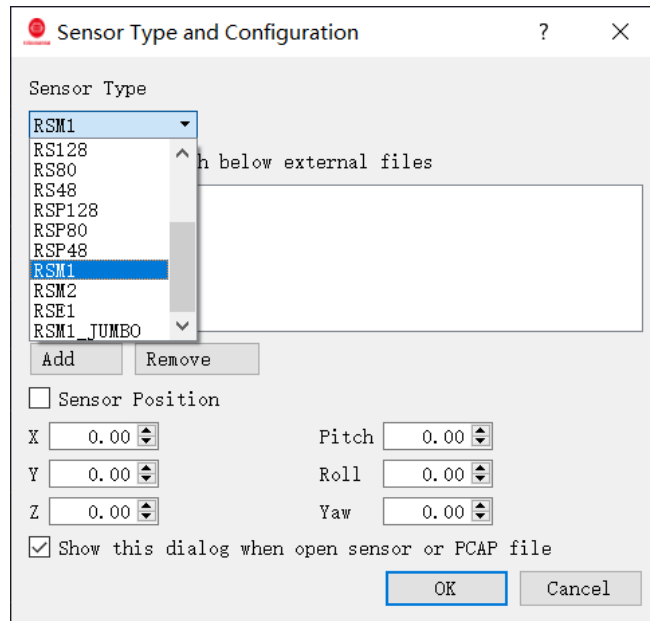

Figure A-2: Select the parameter configuration file of RS-LiDAR- M1
4. After finishing the above 3 steps, the dialogue box "**Sensor Type and Configuration**" shows up. Please Choose RSM1 in the Drop-Down menu to fit RS-LiDAR-M1P. In this dialogue box, the **Sensor Calibration** default contains the configuration folder named MEMSCorrectionFile\_3V, directly click **Add** and then click the **OK** button (as shown in Fig A-2). The original point cloud data output from the RS-LiDAR-M1P is already calibrated point cloud data, therefore the value in this parameter file is void.